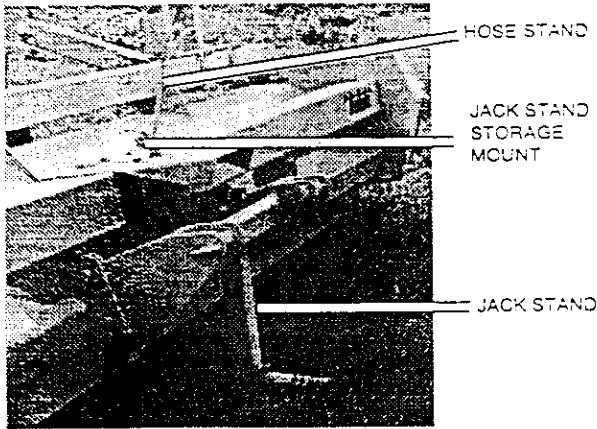

Figure B-5: Jack Stand on Semi-Mounted Models.
- a) Attach the jack stand to the mount located on the main housing behind the hitch. See Figure B-5.